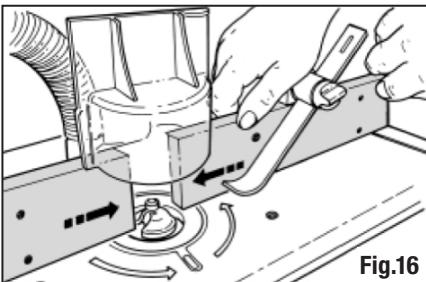

Fig.16
See Fig 16
- When using narrow cutters or when working on small components, slide the MDF fence faces toward each other until they just clear the cutter. This provides maximum support for the workpiece, close to the cutter (Fig 16)